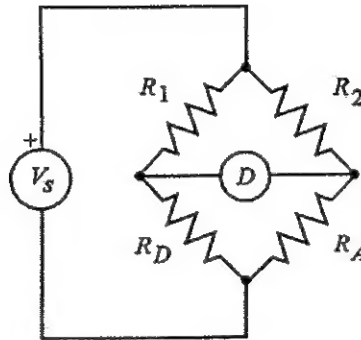

Figure Q1a
- (a) A simple load cell consists of an aluminum post of 2.50 cm radius with a detector and compensation strain gages. The $120\ \Omega$ strain gauges are used in the bridge of **Figure Q1a** with $V = 2\text{V}$, $R_1=R_2=R_D=120\ \Omega$, *Gage Factor* = 2.13 and E for aluminum = $6.89 \times 10^{10}\text{ N/m}^2$. Determine the change of resistance and Variation of bridge offset for load of 0 to 22240N. [13 marks]